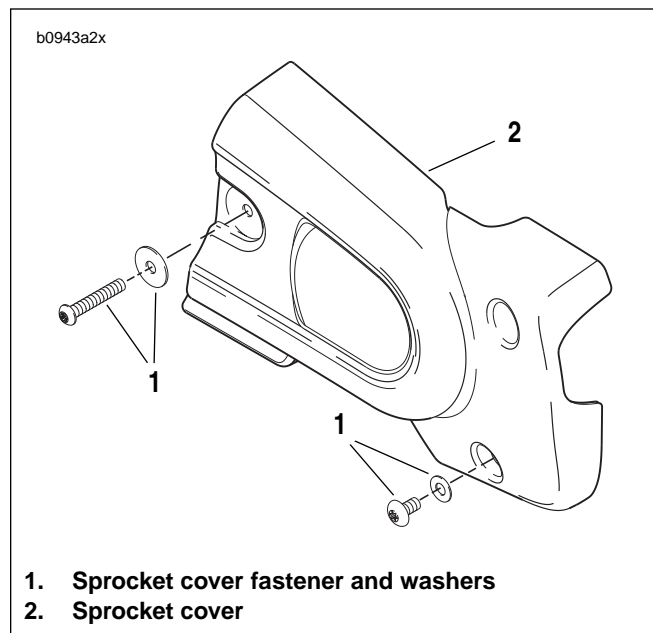
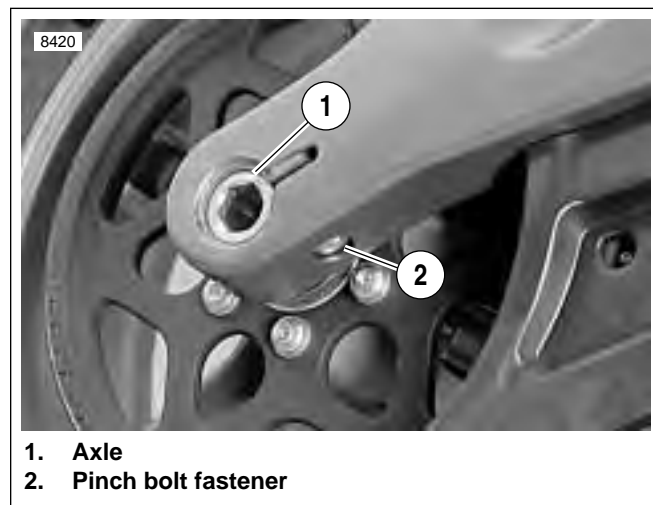

Figure 6-40. Sprocket Cover
Figure 6-41. Rear Wheel Mounting, Right Side
6. See Figure 6-40. Remove front sprocket cover (5) by removing fasteners. See 2.33 SPROCKET COVER.
7. See Figure 6-41. Loosen rear axle pinch fastener (2).
8. Loosen rear axle (1) approximately 15 rotations to allow partial tension to be removed from rear drive system.
5. See Figure 6-41. Tighten rear axle (1) to 23-27 ft-lbs (31.2-36.6 Nm), back off two full turns and then retighten to 48-52 ft-lbs (65.1-70.5 Nm).
6. Tighten rear axle pinch fastener (2) to 40-45 ft-lbs (54-61 Nm).
7. See Figure 6-40. Install front sprocket cover. See 2.33 SPROCKET COVER.